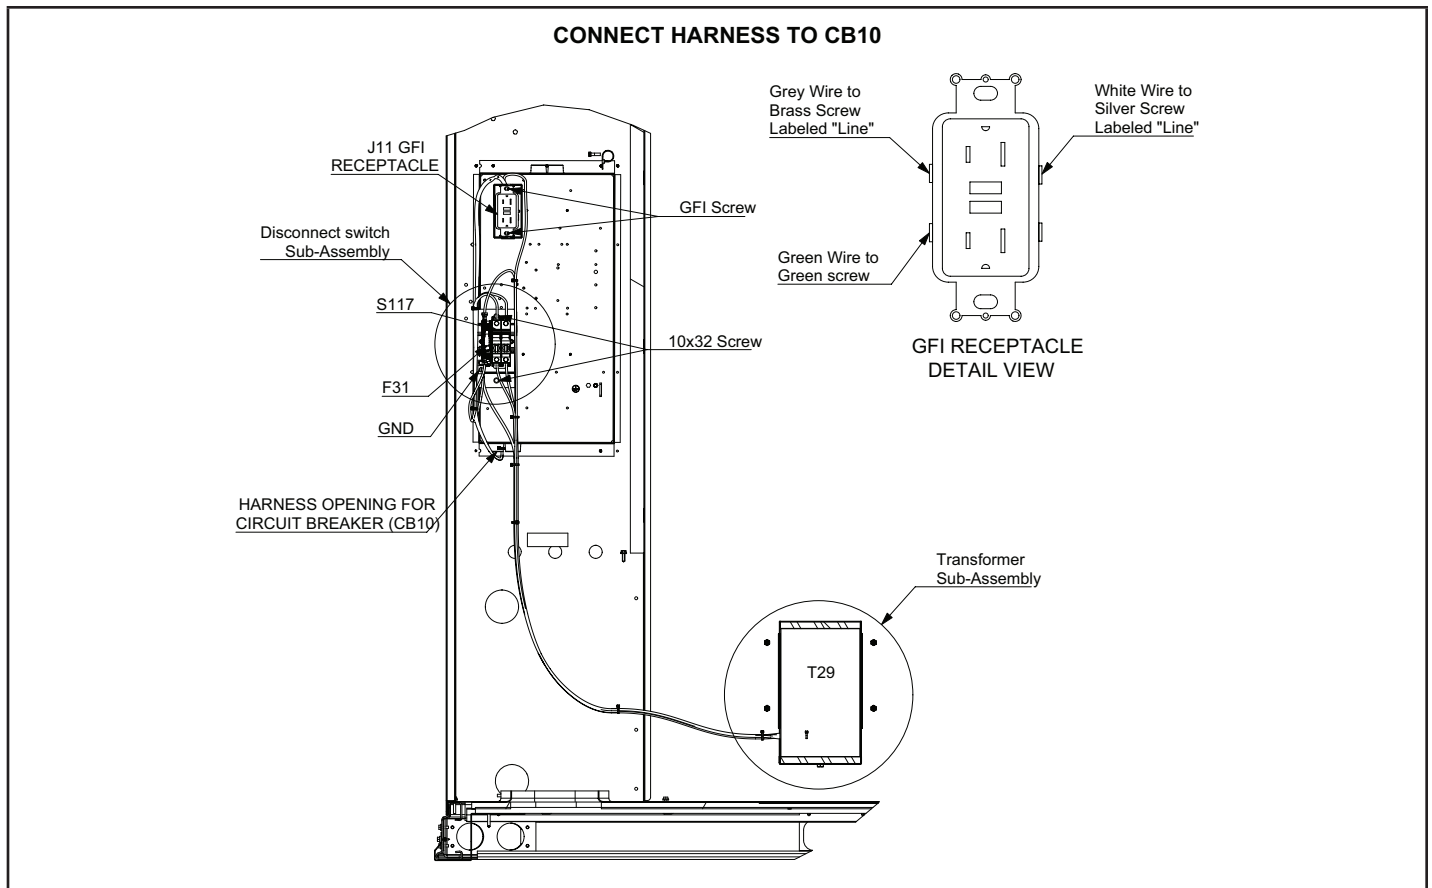

FIGURE 13
- 2 - Locate the disconnect switch sub-assembly provided in the kit. See FIGURE 13.
- 5 - Connect the harness to the L1 and L2 quick-connect tabs on the bottom (line side) of CB10. See FIGURE 13.
- 2 - Locate the transformer T29 assembly from the kit. See FIGURE 13.
- 6 - Identify the pink and blue wires from transformer T29 (stamped S117 -T1 and S117-T2) and connect them to the T1 and T2 load-side terminals of disconnect switch S117. See FIGURE 13.
- 7 - Connect the grey wire with quick-connect terminals stamped F31 to the bottom tab of the fuse block. See FIGURE 13
- 8 - Route the white wire stamped J11 from transformer T29 through the handy box bottom collar and connect it to the silver screw on the receptacle. See FIGURE 13.
- 9 - Connect the green ground wire from Transformer T29 to the ground lug on the disconnect switch sub-assembly. See FIGURE 13.